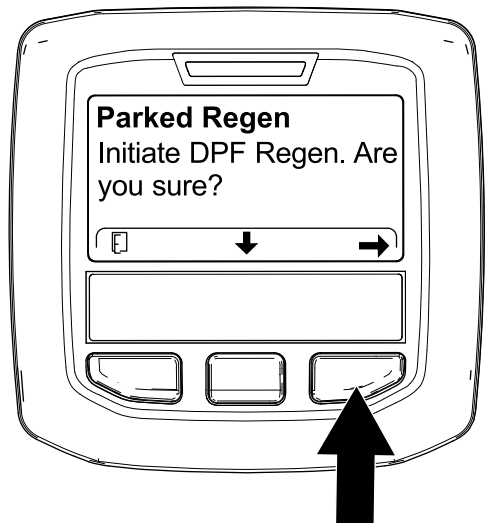

Figure 92
- At the INITIATE DPF REGEN screen, press the right button to continue (Figure 92).